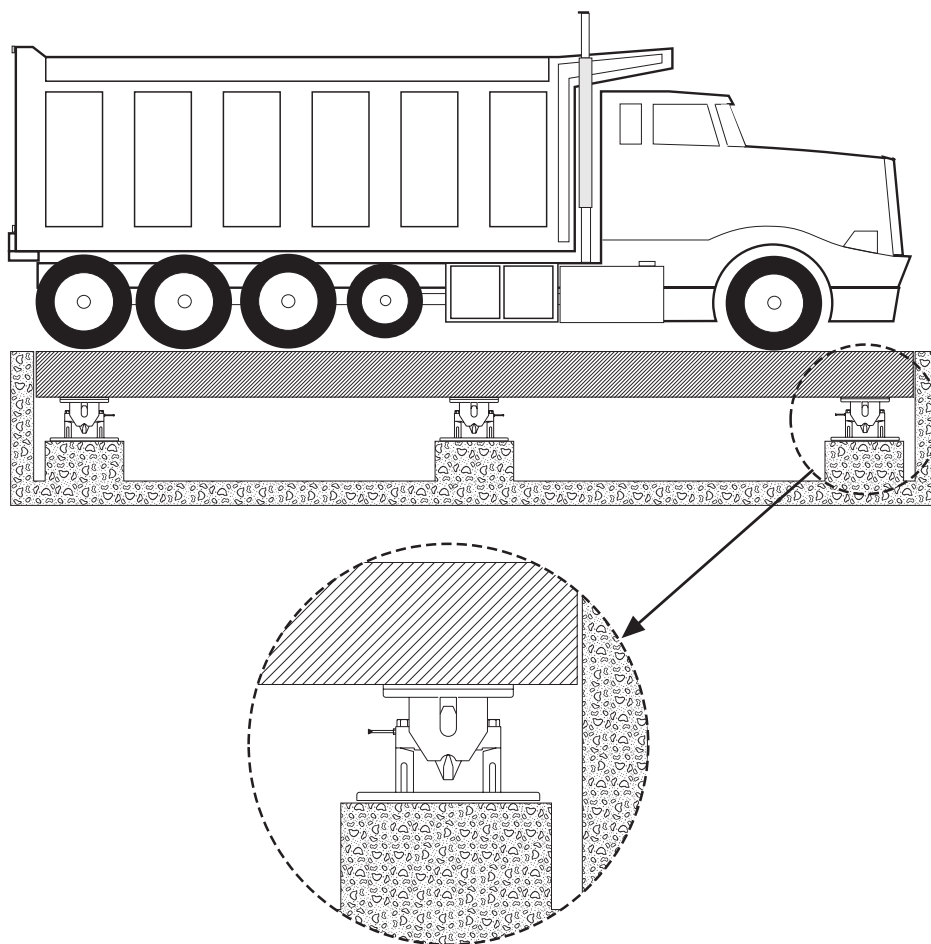

Fig. 2-1: Typical configuration of foundation, mount, and scale deck I-beam
1. Start with a flat, rigid foundation (concrete pier). Position the base stand onto the foundation. Align the base stand in the direction of travel (Fig. 2.1, p. 3).